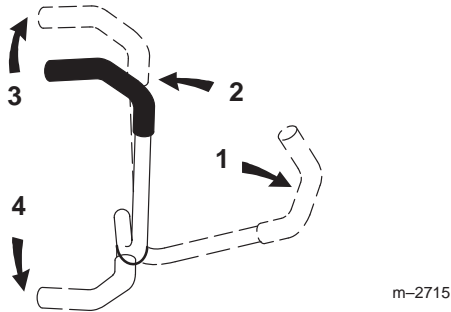

Figure 18
3. To go forward, slowly push the motion control levers forward (Fig. 18).
To go straight, apply equal pressure to both motion control levers (Fig. 18).
To turn, move the motion control lever toward neutral in the direction you want to turn (Fig. 18).
2. To go backward, slowly pull the motion control levers rearward (Fig. 18).
To turn, release pressure on the motion control lever toward the direction you want to turn (Fig. 18).